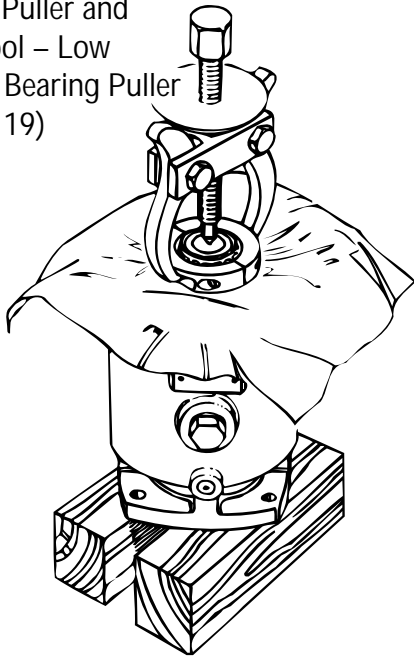

Figure 12
24. Use of low clearance bearing puller is recommended from removal of end cover bearing cone (see Figure 12).